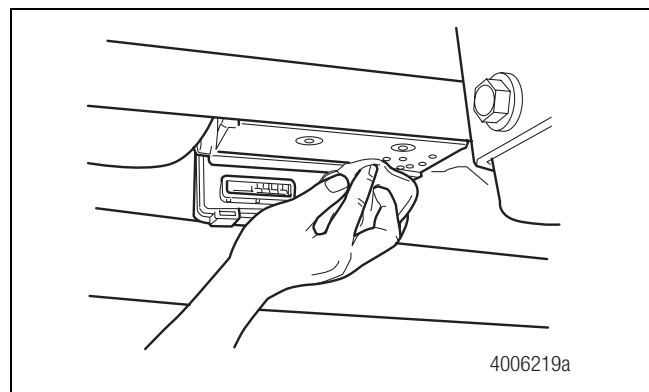

Figure 4
12. Use denatured alcohol and lint-free rags to clean the valve mounting surface. Ensure there is no rubber sticking to the HCU. Do not allow rubber or other debris to fall into the HPB bore holes. Figure 4.